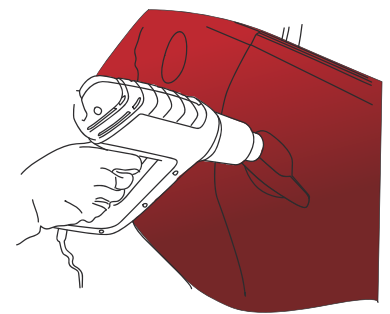

Figure 30
- › Once the application is finished, heat once more all the parts which have undergone severe deformation using the heat gun. (FIG. 30)